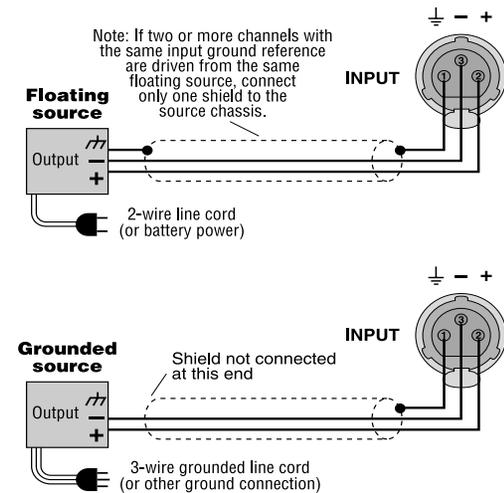
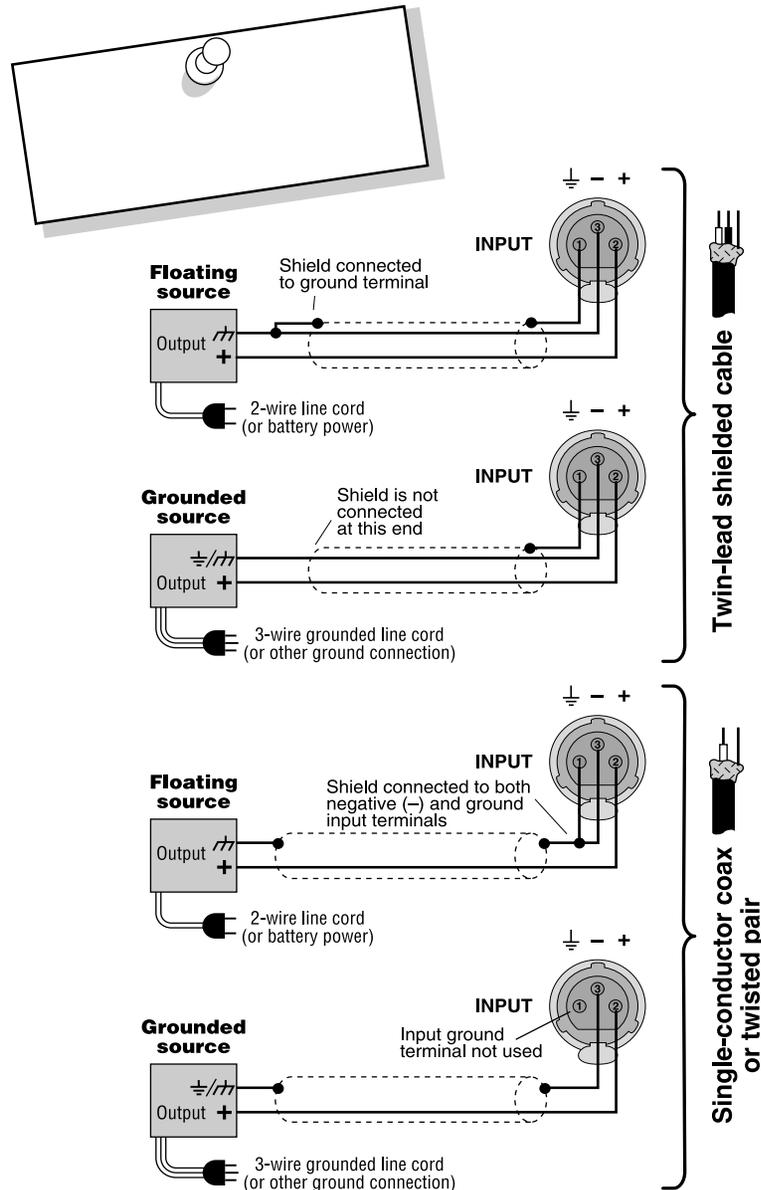

Fig. 4.2 Balanced Input Wiring
Fig. 4.3 Unbalanced Input Wiring
If you have noticeable hum or buzz in your system, you may want to check your cable connections to see if the unwanted noise is being introduced via a ground loop. To determine the proper wiring, first check whether the output from your source is unbalanced or balanced (if you don't know, refer to the unit's back panel or instruction manual). If the source is balanced, refer to Figure 4.2; if it is unbalanced refer to Figure 4.3. Next, determine if the source's power cable is floating (ungrounded, 2-prong) or grounded (3-prong). Finally, if the source is unbalanced, check the type of wiring: twin-lead or single coax.
2. Unless you are interfacing to a microphone, the shield of the cable should be connected only at one end. (See Fig. 4.2)
Check Figure 4.2 to see if your cable has been wired with the proper shield and ground connection. If the cabling is incorrect, you may be able to avoid the ground loop (and associated hum) by plugging all of your equipment into the same AC circuit (on the same breaker). If this is impractical, you will need to fix the cable to match the appropriate illustration. Or you may want to simply replace the offending cable with a commercially manufactured cable of the appropriate type.